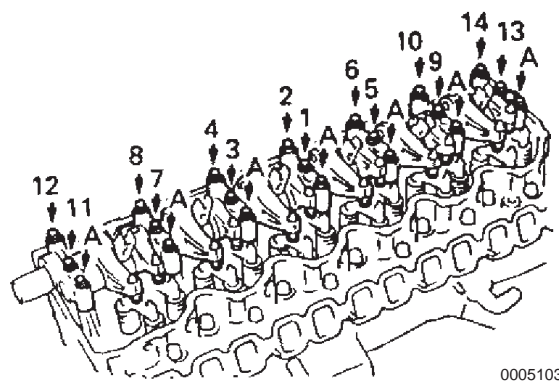

Figure 5-73
7. Uniformly tighten the 14 bearing cap bolts in steps in the order shown in **Figure 5-73**.
- Torque (bearing cap, others A): 250 kgf·cm, 24.50 N·m (18.07 lb·ft) (**Figure 5-73**).